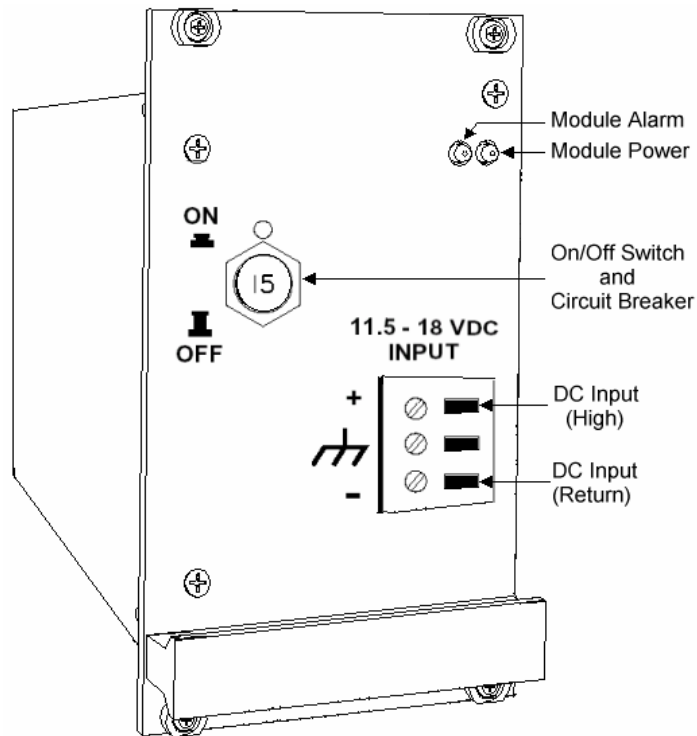

Figure 5-3 12 VDC Power Connections
- 12 VDC input (refer to Figure 5-3 and paragraph 10.4).